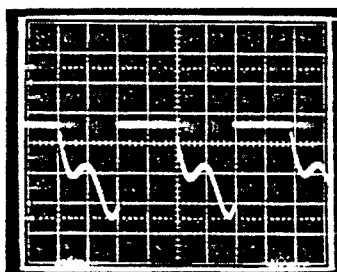

Figure 4-12. Waveform, Servo Board (TP-3)
- (1) Verify that the FRK is stabilized and locked.
- (2) Monitor A1TP3 with an oscilloscope.
- (3) Connect a 20 megohm resistance jumper between U5, pin 2 and E2.
- (4) Adjust potentiometer R16 to obtain a waveform as shown in Figure 4-12.